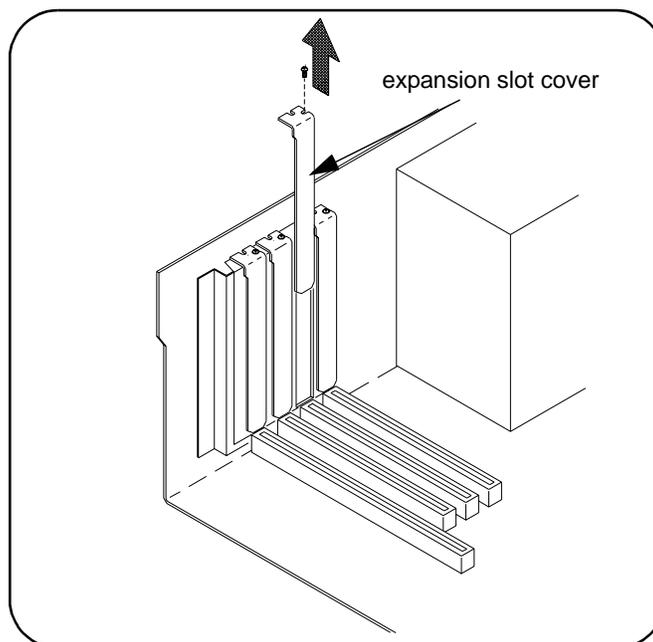

Figure 2-3. Removing the PC Expansion Slot Cover.
3. Remove the corresponding expansion slot cover from the computer chassis (Figure 2-3).